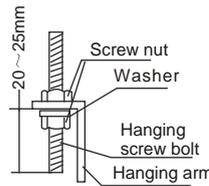
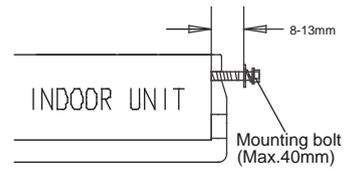

Fig.49-10
Fig.49-11
2. Location the hanging arm on the hanging screw bolt. (Refer to Fig.49-10) Prepare the mounting bolts on the unit. (Refer to Fig.49-11)